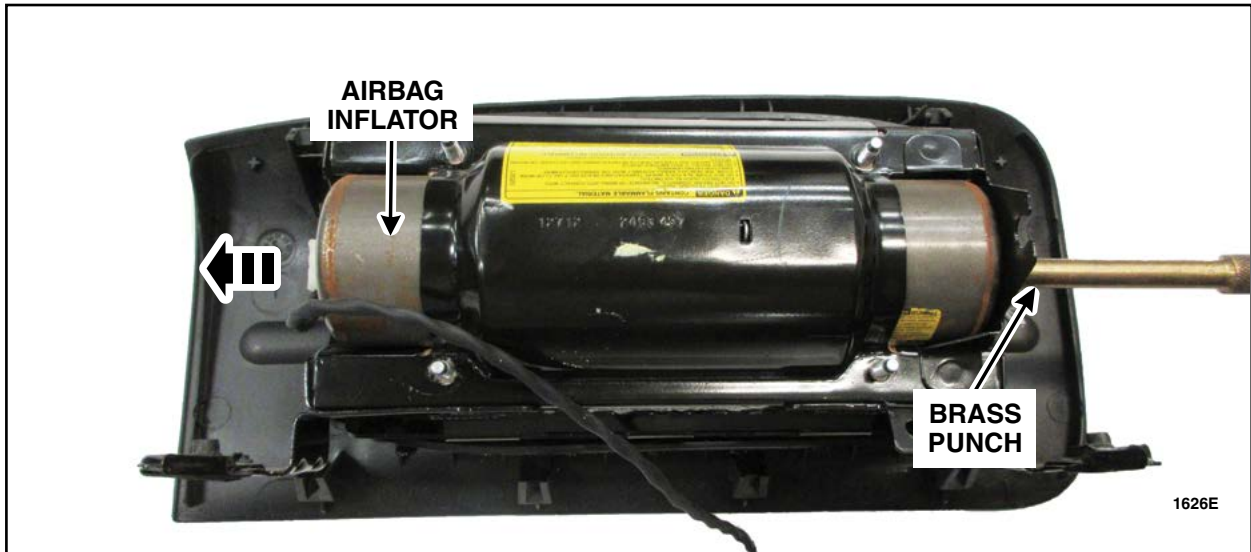

FIGURE 6
6. With an assistant holding the passenger airbag assembly, remove the inflator from the assembly by pushing outward on the inflator. Set the airbag inflator aside for return shipping. See Figure 6.